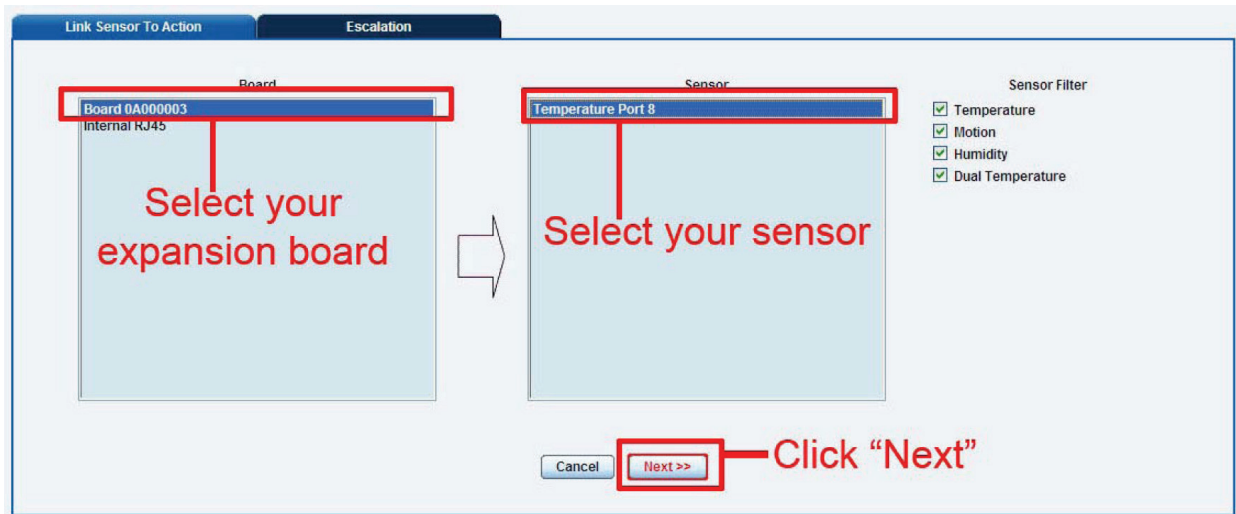

Figure 4-8. Select the expansion board, then select the sensor.
13. Select the sensor and SNMP trap parameters as before. Figure 4-8 appears. Select the expansion board, then select the sensor. Click "Next."